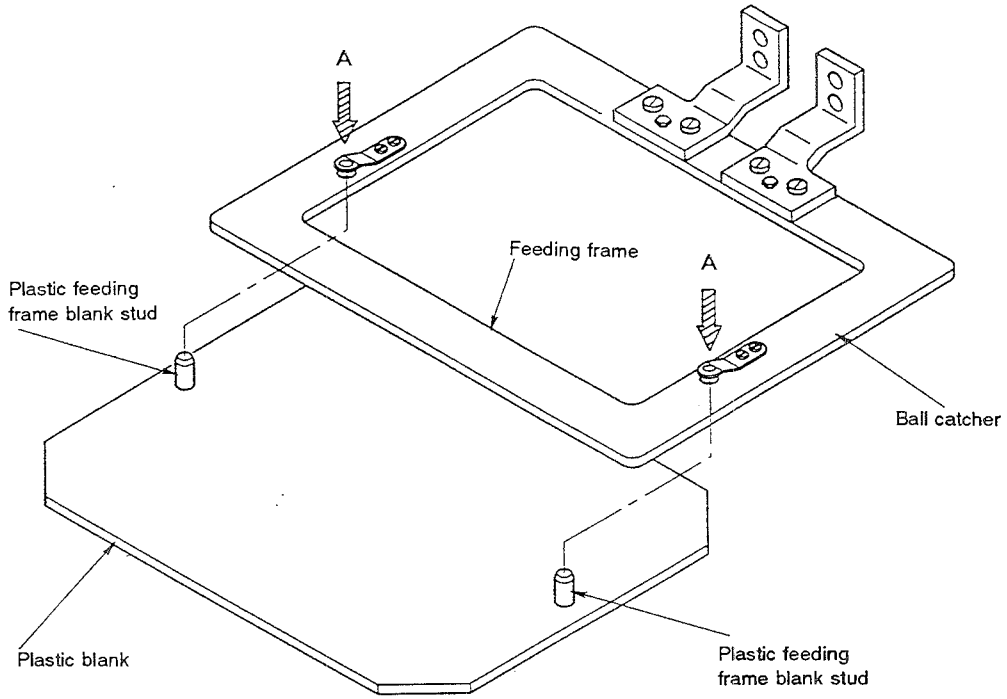
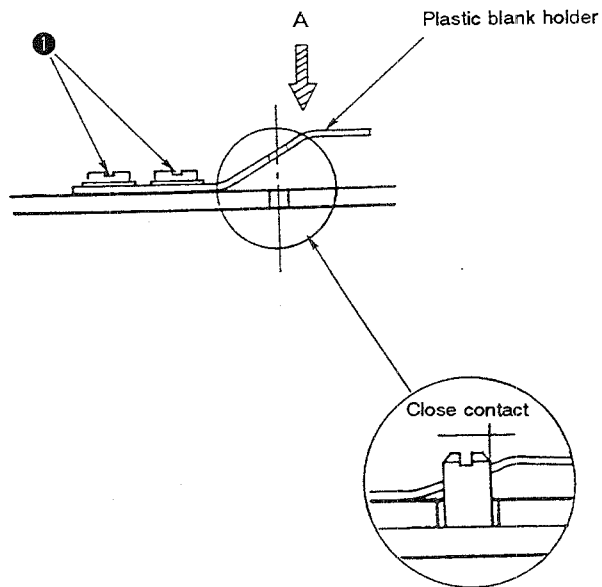

Fig. 5-39-1
Fig. 5-39-2
<p>1) Loosen screw ①. Attach the plastic blank to the feeding frame and fix it properly. (Fig. 5-39-1, Fig. 5-39-2)</p> <p>2) Adjust the position of the plastic feeding frame blank so that the plastic feeding frame blank comes in close contact with the plastic feeding frame blank stud, while pressing the plastic feeding frame blank in the direction A. Then tighten screws ①. (Fig. 5-39-2)</p>	<p>○ The plastic feeding frame blank may easily drop from the feeding frame. The plastic feeding frame blank may fail to be set to the feeding frame.</p>